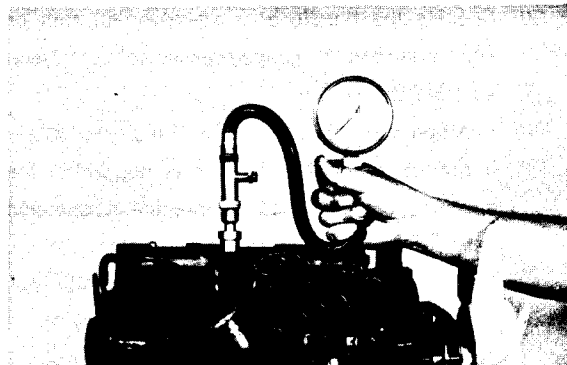

Figure 16
3. Connect the high pressure compression gauge to the adapter (Fig. 16).